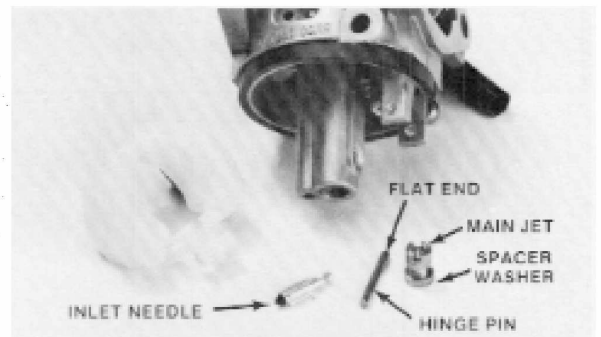

Figure 3-5
6. The standard main jet is a #82.5 and is equipped with a spacer/washer. The float and inlet needle may be removed by pulling out the float hinge pin. See Fig. 3-5. Please note: one end of the hinge pin is flattened slightly. The pin must be removed from this end.